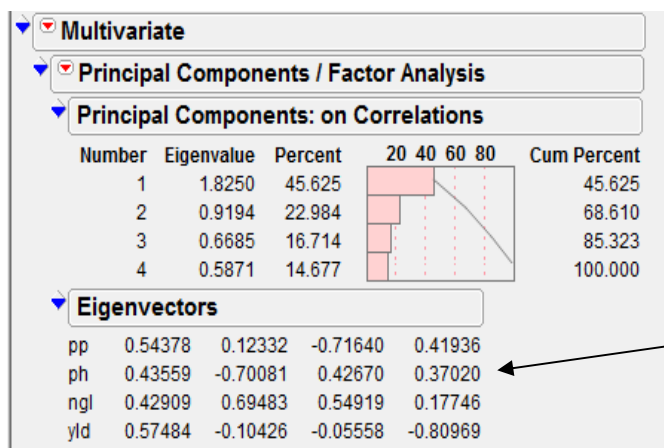

Figure 5.4.2: Principal Component Analysis Output
2. Go to **Analyze** → **Multivariate Methods** → **Principal Components**. Select the variables pp, ph, ngl and yield from **Select Columns** box → **Y, Columns**. See the output as in Figure 5.4.2.